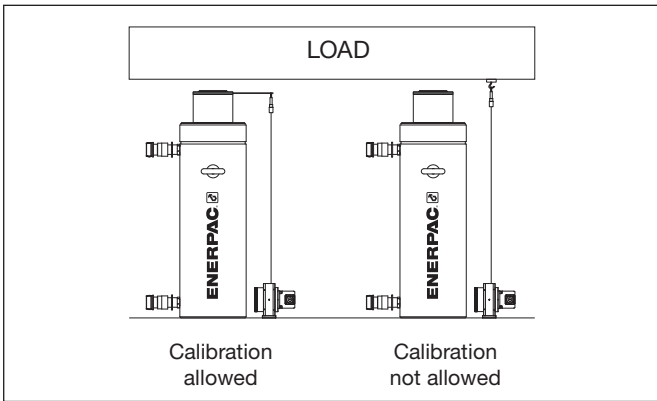

Figure 48: Calibration Conditions
2. Cylinder calibration selection: The user must set if the calibration is going to be carried out or not, depending on the type of cylinder used. Refer to Figure 48 for details.